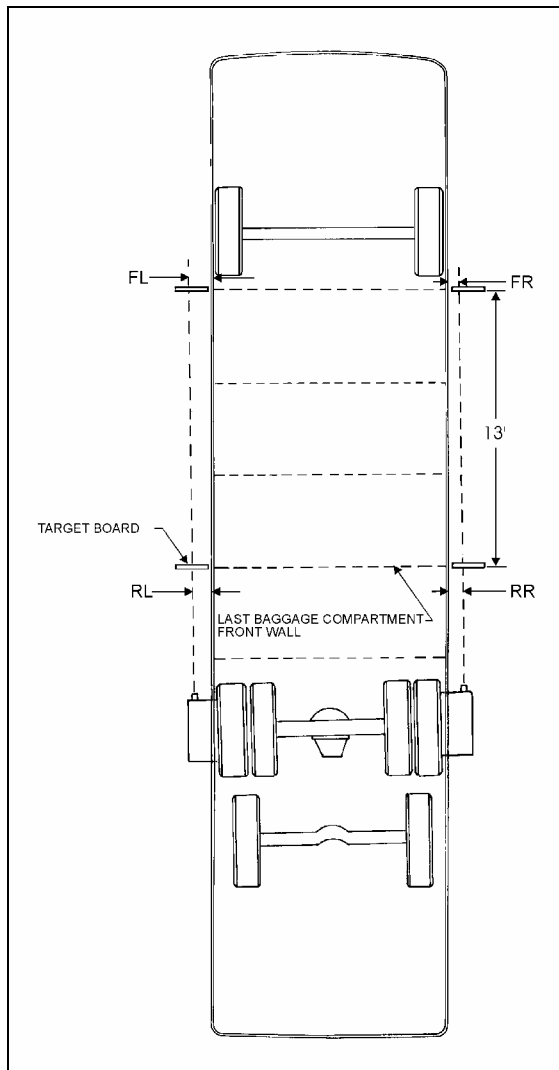

FIGURE 5: DRIVE AXLE ALIGNMENT
4. Install a target board on each side of the vehicle, at the level of the last baggage compartment front wall (refer to fig. 5).
by the projector) and the frame post located immediately adjacent to the target board. Record measurement, then repeat procedure on the other side (Fig. 5). Dimensions obtained are identified RR on rear right-hand side and RL on rear left-hand side.
7. Move the target boards to the front of vehicle: 13 feet towards the first target location for installation (fig. 5).